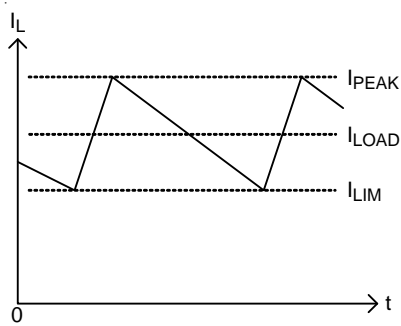

Figure 2. Valley Current Limit
The RT8228A has cycle-by-cycle current limiting control. The current limit circuit employs a unique “valley” current sensing algorithm. If PHASE voltage plus the current limit threshold is below zero, the PWM is not allowed to initiate a new cycle (Figure 2). In order to provide both good accuracy and a cost effective solution, the RT8228A supports temperature compensated MOSFET RDS(ON) sensing. The CS pin should be connected to GND through the trip voltage setting resistor, RCS. With the 10μA CS terminal source current, ICS, and the setting resistor, RCS the CS trip voltage, VCS, can be calculated as shown in the following equation.